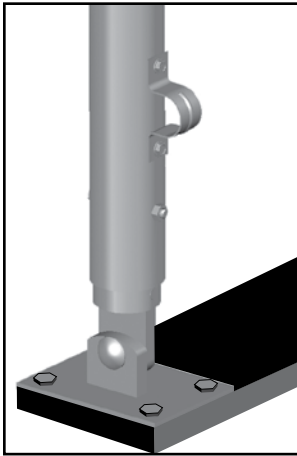

Figure 1
6. After marking the location of the center of the bottom purlins on the legs, place a cross-connector at the base of each leg of each inside rafter assembly (Figure 1).
**ATTENTION:** Attach pipe straps to the end rafters only (Fig. 1). Cross-connectors are used to secure the bottom purlins to the inside rafter assemblies (Fig. 2).